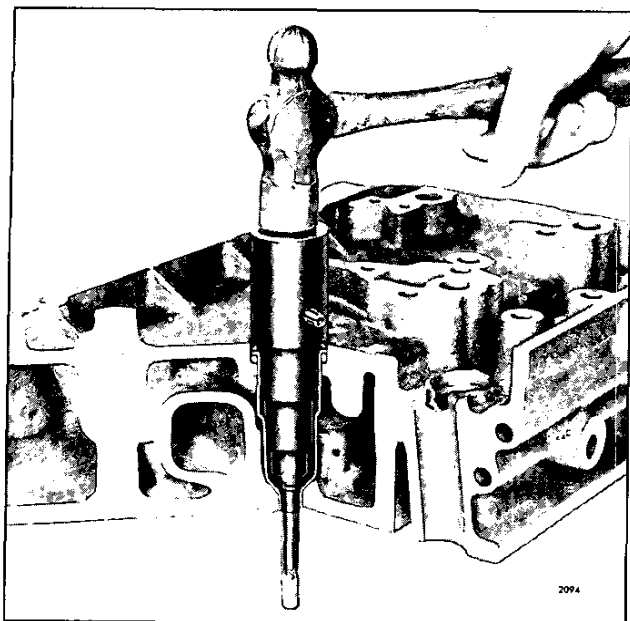

Fig. 2 – Installing Injector Tube Using Tools J 5286-4A and J 5286-5
- 2. Place the installer J 5286-4C in the injector tube. Then, insert the pilot J 5286-5 through the small opening of the injector tube and thread it into the tapped end of the installer (Fig. 2). For proper installation of any injector hole tube, the tool must contact the tube at the bottom before it touches the
3. Slip the injector tube into the injector bore and drive it in place (Fig. 2). Sealing is accomplished between the head counterbore (inside diameter) and outside diameter of the injector tube. The tube flange is merely used to retain the seal ring.